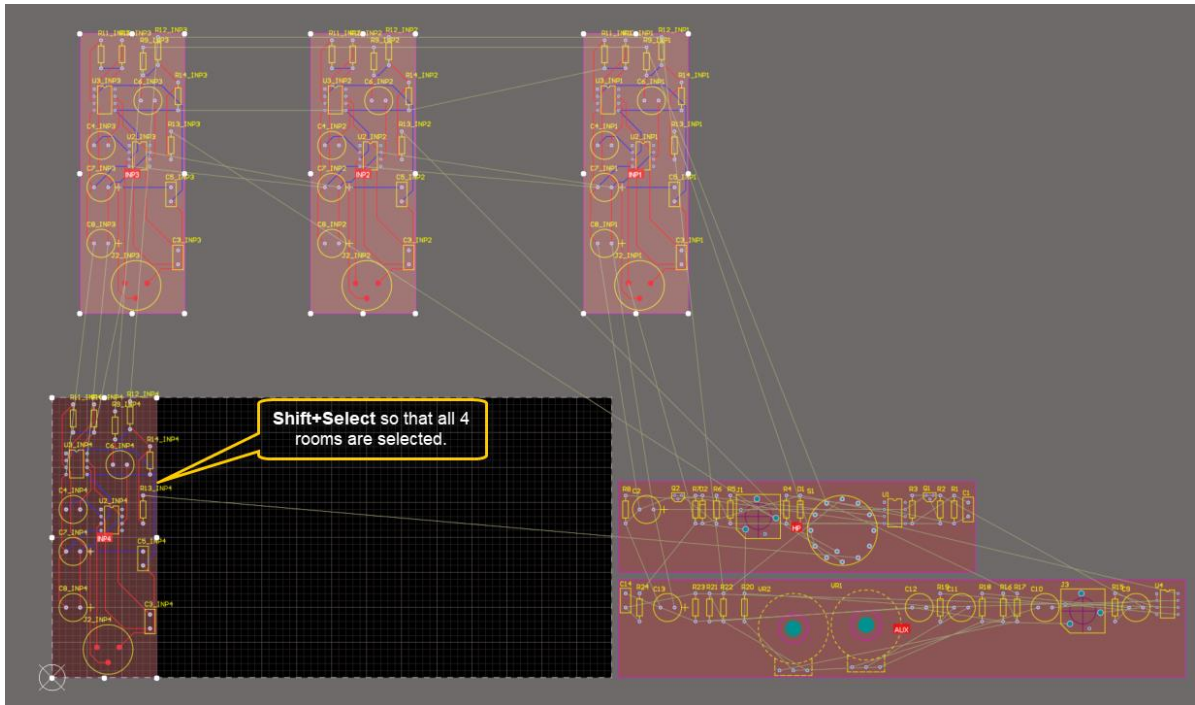

Figure 12. Selection of rooms for the re-arrangement
24. While the rooms are still selected, **Shift+select** to select room INP4 so all of the INP rooms are now selected as shown in Figure 12 below.